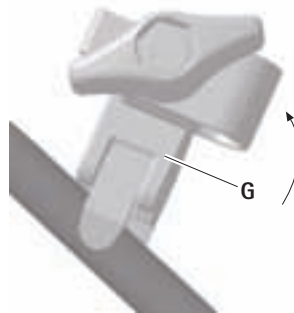

Fig. 9
- Slide off fastening clamp **G** from the frame by applying lateral pressure on the clamp, see Fig. 9.